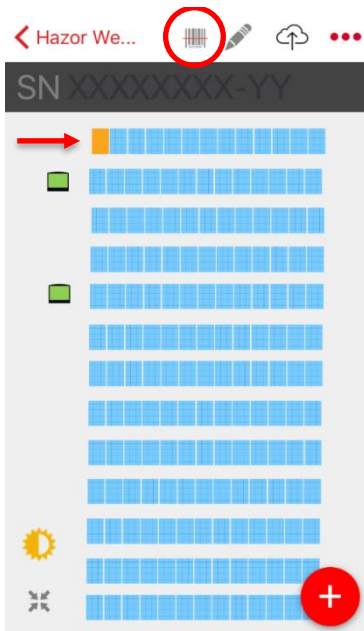
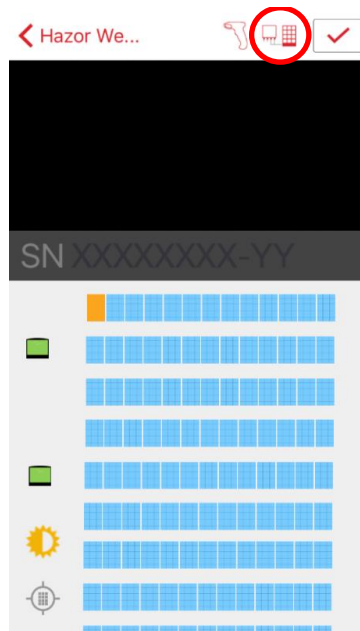
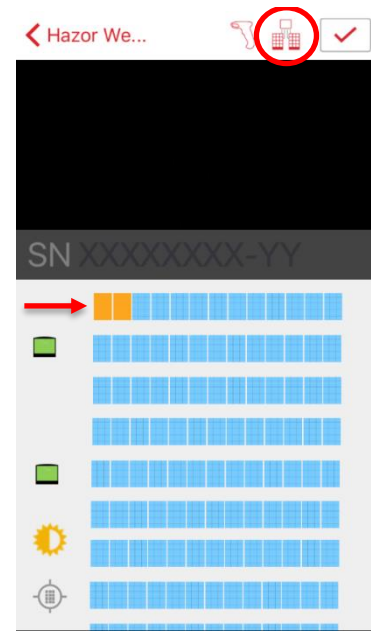

Figure 2: Tap on barcode
Figure 3: 1-to-1
Figure 4: 1-to-2
4. In the site layout screen, tap on the first module you will scan (see the red arrow in Figure 2).
5. To start scanning, tap the barcode icon (Figure 2) and select your site optimizer-to-module configuration – either 1-to-1 (Figure 3) or 1-to-2 (Figure 4). In 1-to-2 installations, you will be asked to select the second module connected to the same optimizer before you begin (see the red arrow in Figure 4).